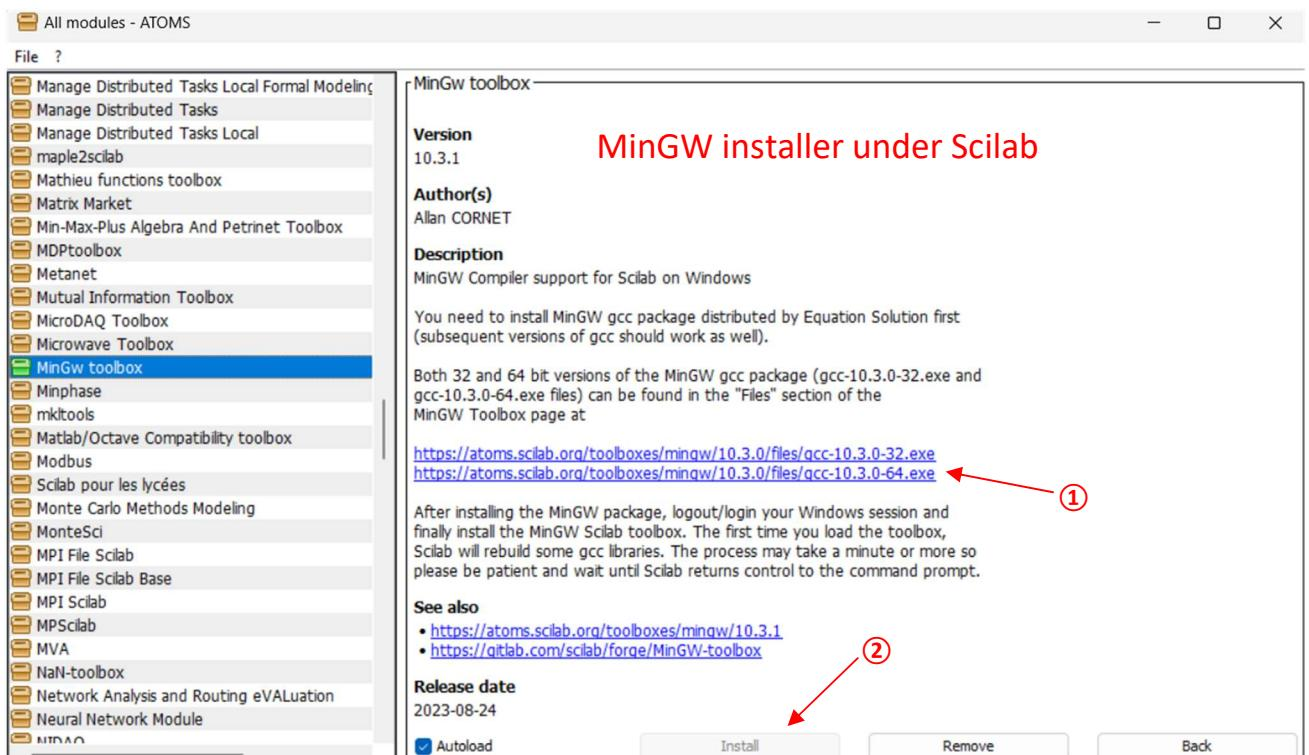

Figure 8 : MinGW installer under Scilab
4. Complete the MinGW installation by clicking "Install" as shown in ② on *Figure 8*.